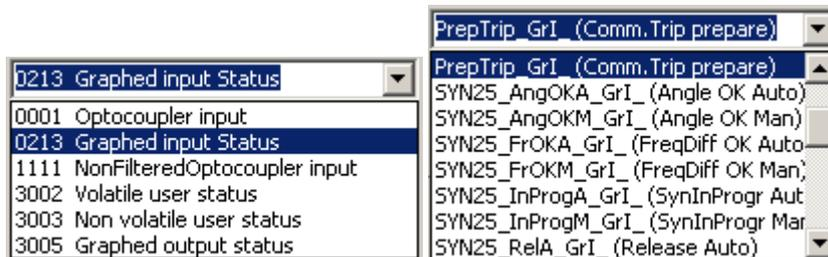

Figure 1-11 Details of the “Object property” window for fast relay contacts
- “**On Item name**” identifies the binary signal to operate the relay. Any internal signal can be selected from the dropdown menu. The user must select these signals first by the signal type according to (Figure 1-11 left side) then the selected signal itself (Figure 1-11 right side).
- **On Item name** means the selection of an output signal, the 1 state of which results in continuous ON state of the LED. The selection method is similar to Figure 1-11.
- **Blink Item name** means the selection of an output signal, the 1 state of which results in the blinking state of the LED. The selection method is similar to Figure 1-11.